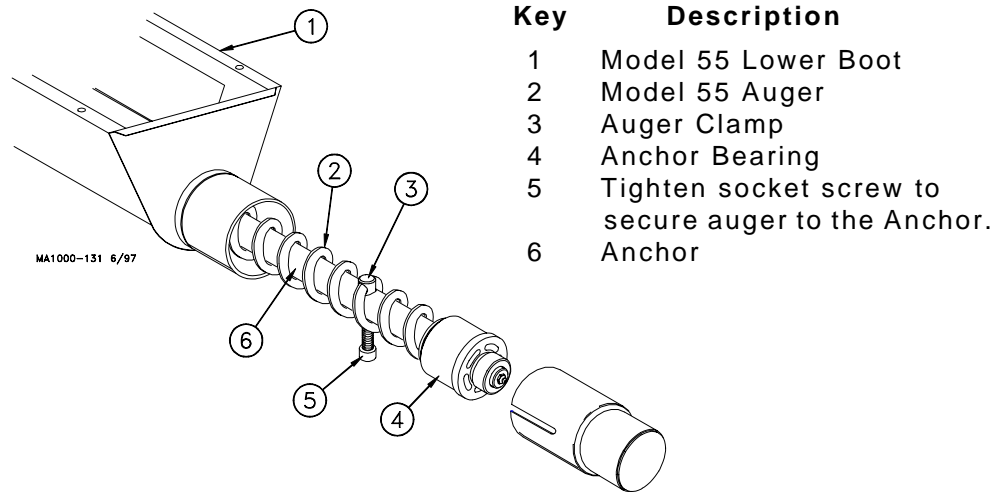

Figure 18. Model 55 Anchor and Bearing Installation
6. Figure 18 shows the proper assembly of the Model 55 boot components. Insert the Auger over the Anchor and through the Auger Clamp until Auger touches washer. Torque Set Screw into Auger Clamp 10-12 ft-lbs. Over tightening the Set Screw may cause damage to the Auger Clamp.